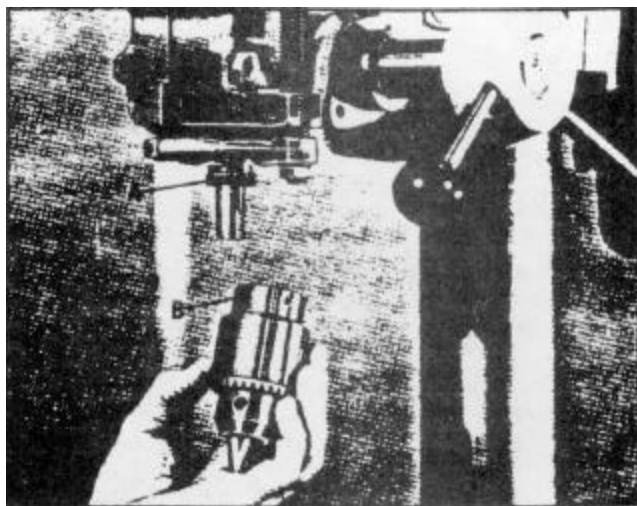
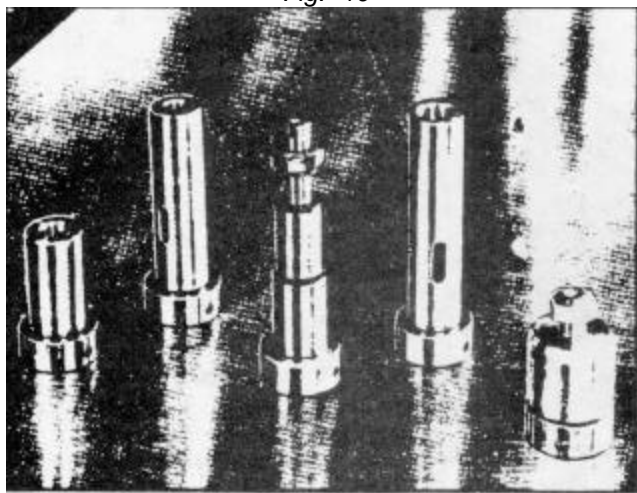

Fig. 10
Fig. 11
One of the unique features of 17" Key Chuck Drill Presses is that they come equipped with a lower spindle assembly having a 1 1/16" - 20 thread (A) Fig. 10, and the Cat. No. 15-830 Drill chuck which has a threaded mounting collar (B) Fig. 10. Various spindle adapters, shown in Fig. 11, can also be adapted to the threaded spindle of your 17" key chuck Drill Press. These adapters are available as an accessory.
The spindle adapters, shown in Fig. 11, along with the Cat. No. 15-830 Drill Chuck, shown in Fig. 10, can be used on 17" Morse Taper Drill Presses when the lower spindle cartridge (Part No. 402-07-301-5001 is installed in the drill press instead of the standard #2 Morse Taper Spindle Cartridge).